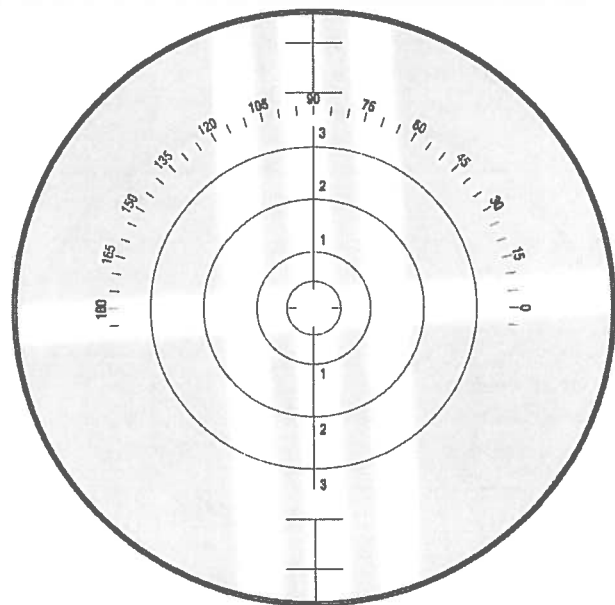

Figure 6
4. If only the sphere target (triple narrow lines) or the cylinder target comes into sharp focus, there is either plus or minus cylinder power in the lens (Figures 6, 7, and 8). By turning the power drum you will find a second position at which the other target lines will be in focus.